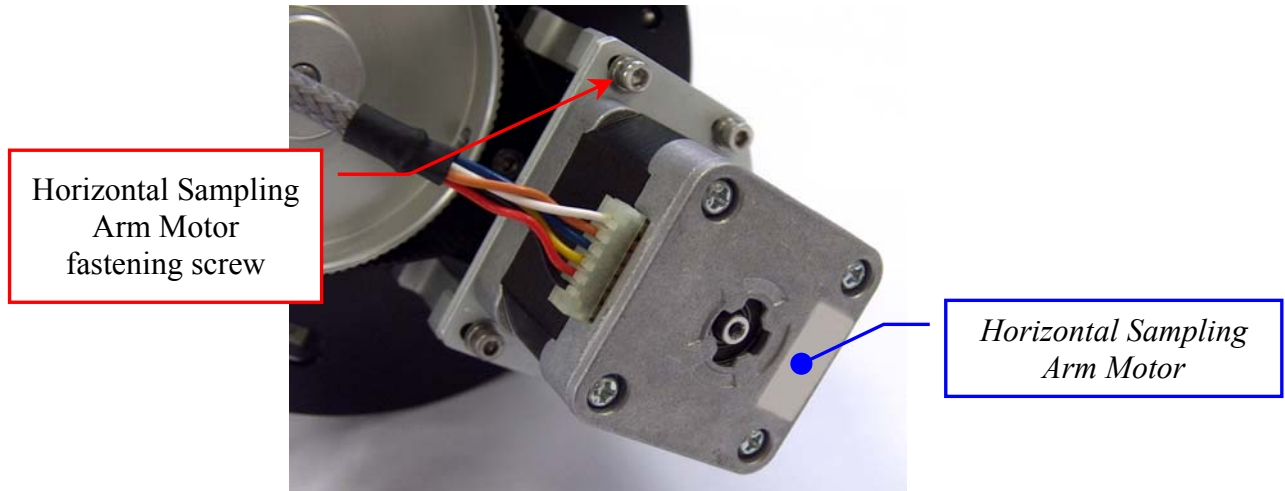

Fig. 20 – Horizontal Sampling Arm Motor
11. Remove the four Horizontal Sampling Arm Motor fastening screws (Fig. 20).
19. Replace the Horizontal Sampling Arm Motor into its Sampling Arm housing, then insert (without tighten) the four Horizontal Sampling Arm Motor fastening screws (Fig. 20).